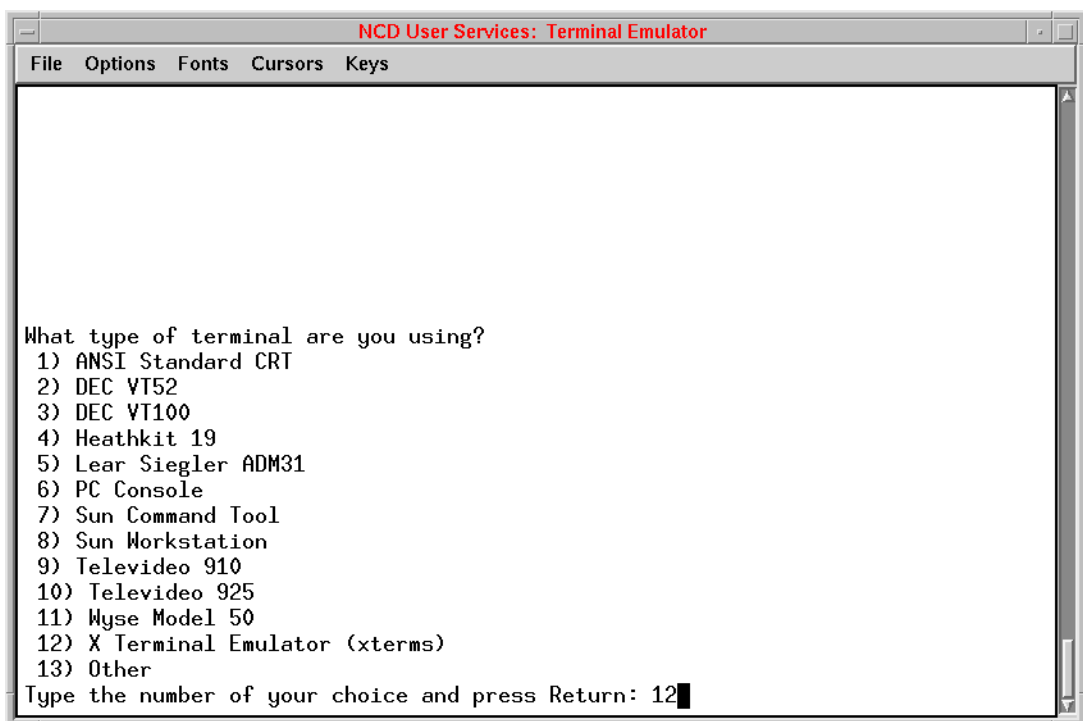

Figure 2-6: Terminal Selection
3. Select the type of terminal in use (see Figure 2-6).